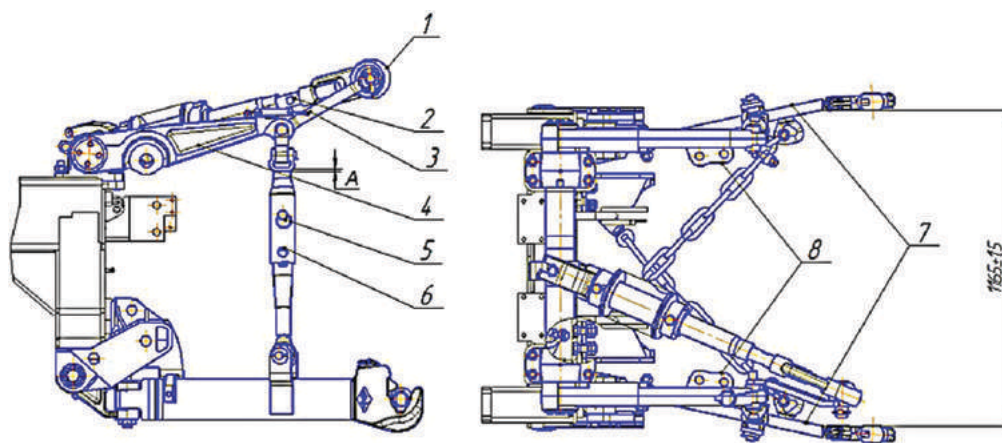

Fig. 116
- lift lower links 7 - Fig. 116, below - using hydraulic cylinders until the locks actuate;
When connecting mounted or semi-mounted agricultural machines and implements, the length of vertical strut 6 - Fig. 116, above - shall be minimum to ensure the maximum traffic clearance.